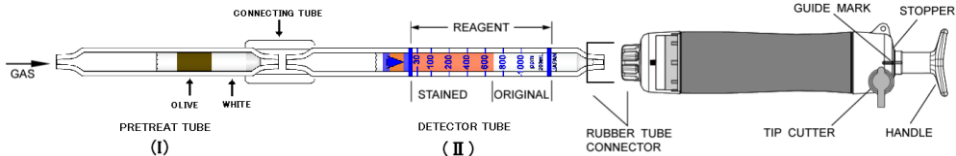

Fig.1
- ① Break both ends of the pretreat tube ( I ) and detector tube ( II ), and connect each end of the pretreat tube ( I ) and detector tube ( II ) with connecting tube as shown in Fig. 1.
- ② Insert the detector tube ( II ) into the aspirating pump securely as shown in Fig.1. (Arrow mark shall point to the pump.)
- ③ Align the guide marks on the shaft and stopper of the aspirating pump.
- ④ Pull the pump handle at a full stroke until it locks and wait for 1.5 minutes or until the completion of sampling is confirmed with the flow indicator of the pump (See descriptions about the flow indicator in the instruction manual of the pump).
- ⑤ Push back the handle without removing the detector tube from the rubber tube connector so that air in the pump will be discharged perfectly.
- ⑥ Then repeat the steps ③~④ once more.
- ⑦ On completion of sampling, read the scale at the maximum point of the stained layer.
- ⑧ When the concentration is below the scale range, 4 pump strokes can be used to determine concentrations of 10 to 200 ppm. Then multiply the reading value by 1/3.